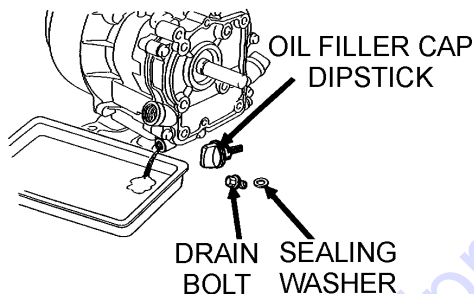

Figure 55. Draining Engine Oil
1. Drain the engine oil when the oil is warm as shown in Figure 55.